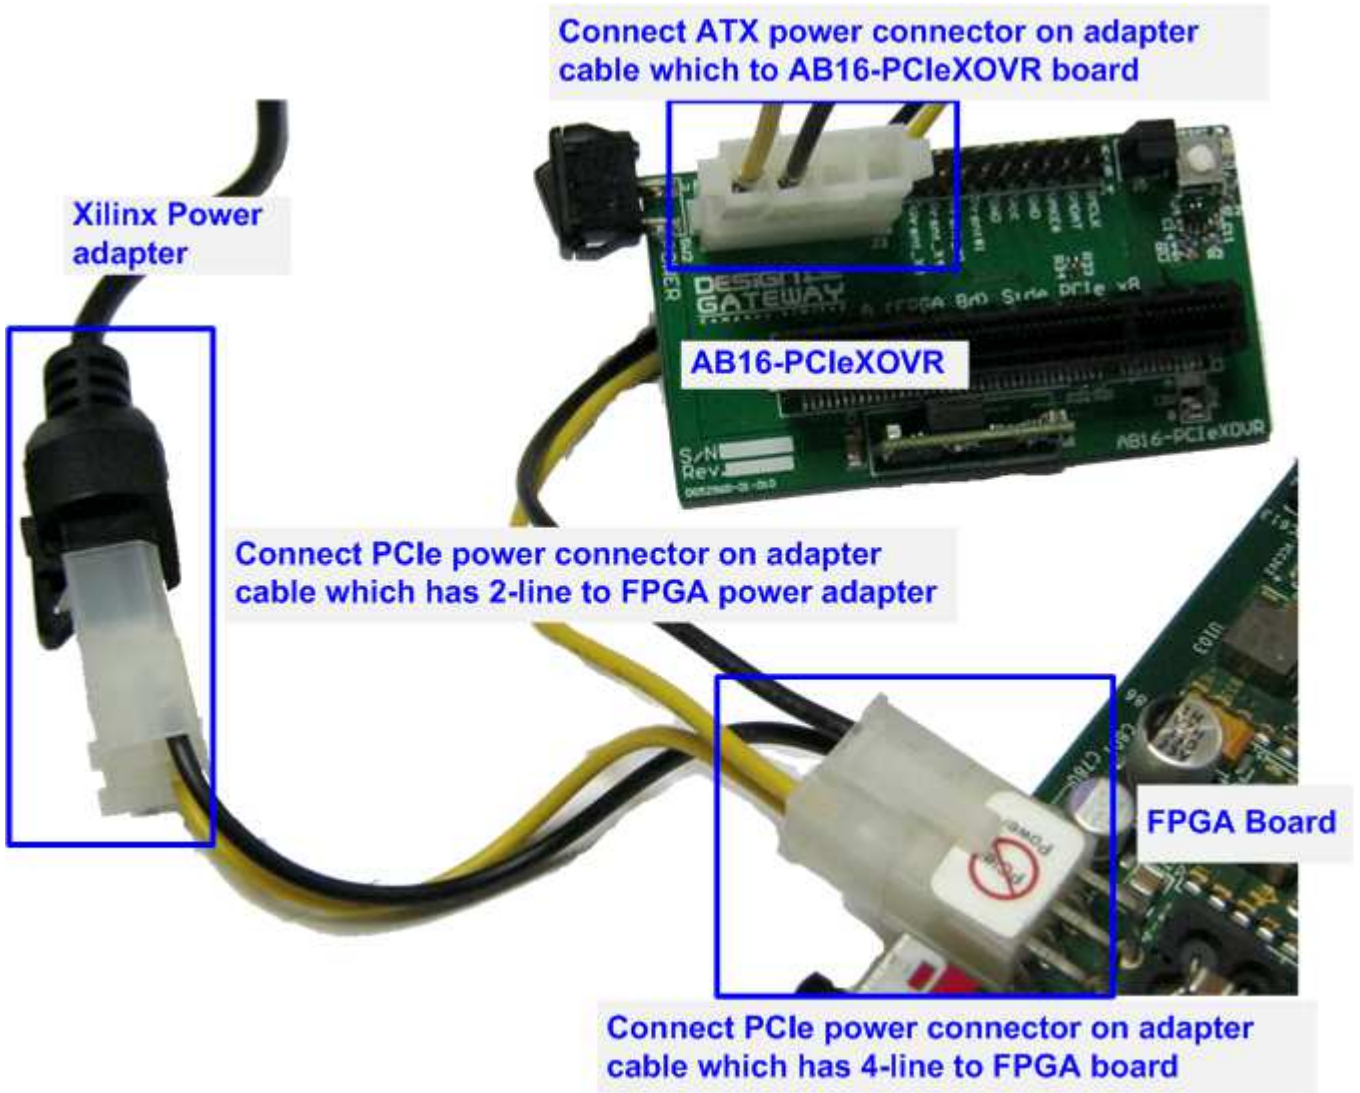

Figure 2-1 Connect power adapter cable to FPGA board, AB16 and Xilinx adapter
- 2) Connect power adapter cable from AB16-PCIeXOVR delivery set to power connector on FPGA board, on AB16-PCIeXOVR board, and on Xilinx power adapter as shown in Figure 2-1.